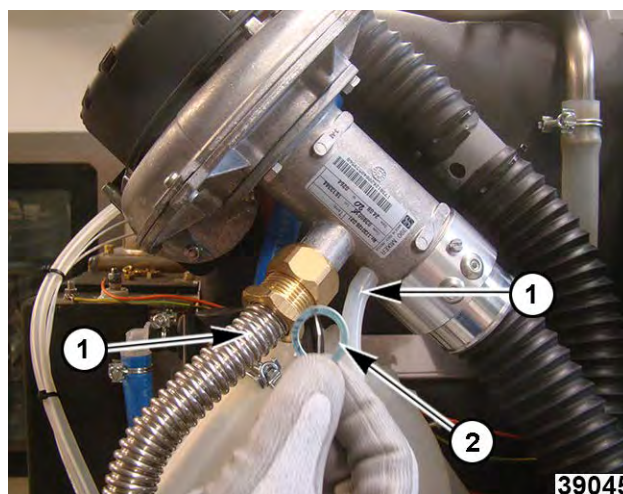

Fig. 101
NOTE: When disconnecting gas pipes, there will be a gasket (2, Fig. 101). Take care not to lose gasket or it may fall into an inaccessible area of the unit.
3. Note and disconnect burner gas piping (1, Fig. 101) connections.